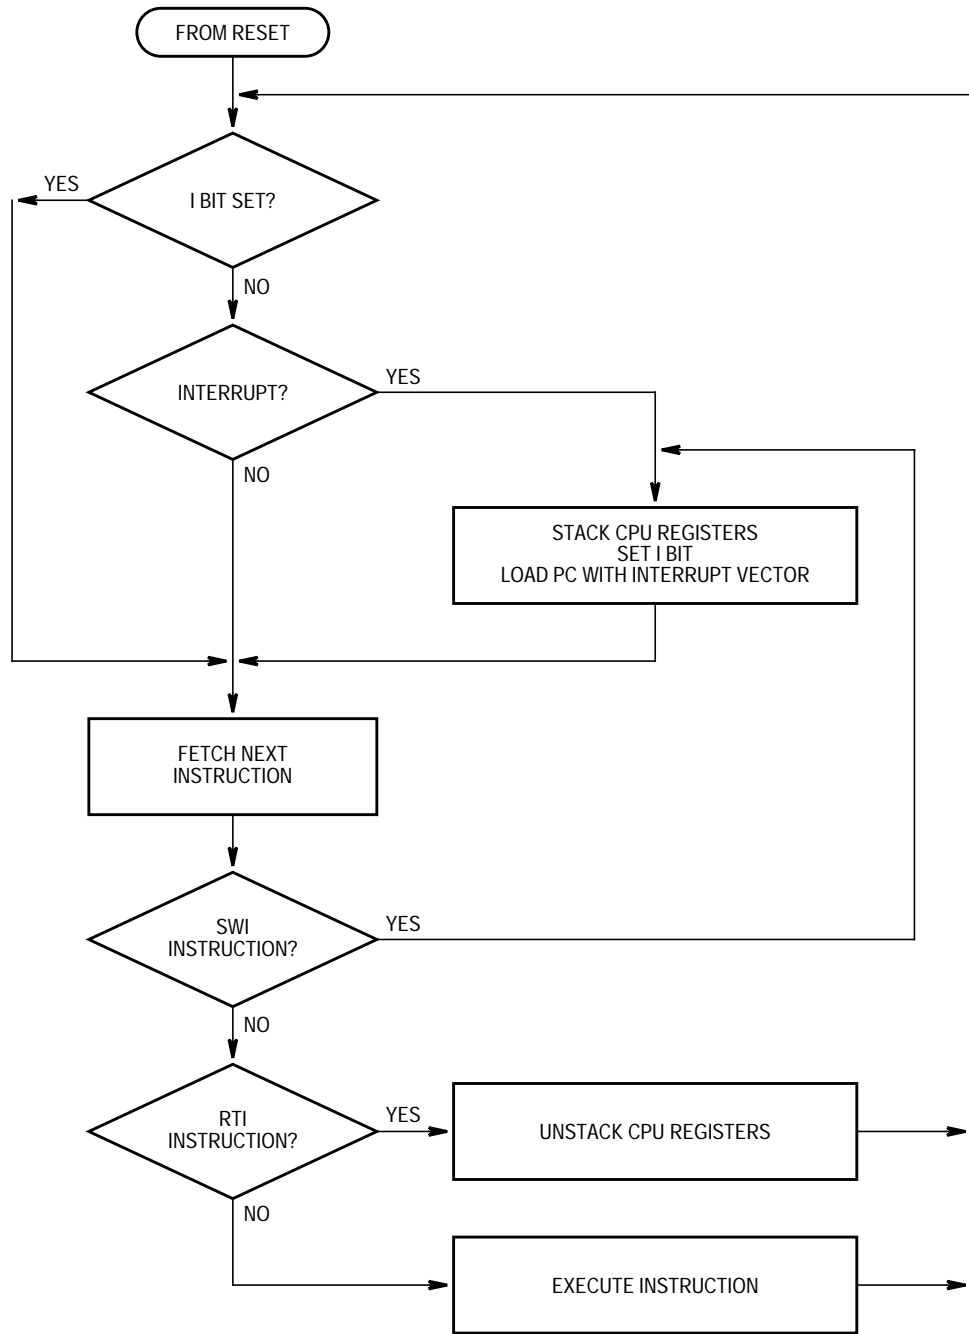

Figure 11-3. IRQ Interrupt Flowchart
NOTE: *The interrupt mask (I) in the condition code register (CCR) masks all interrupt requests, including external interrupt requests. (See Figure 11-3.)*